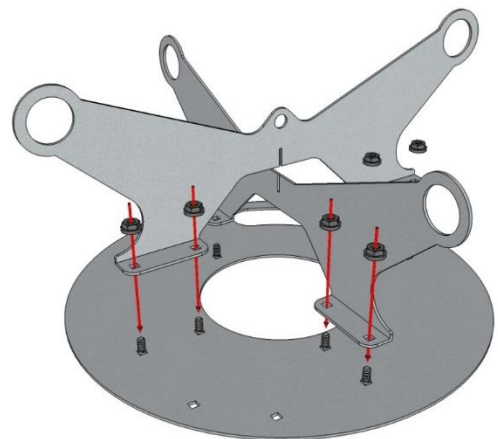

Figure 1
1. Position the Upper & Lower Support Arms as shown in Figure 1 to the right.